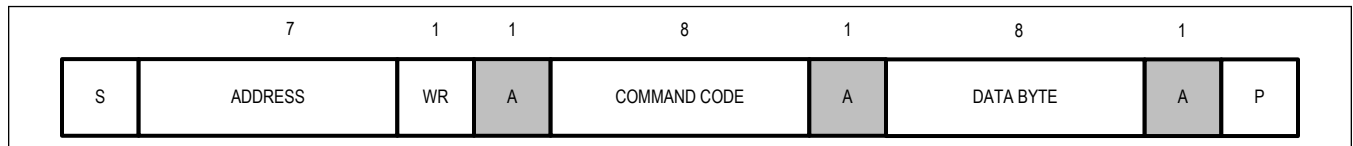

Figure 2. I2C Write
A write operation (Figure 2) begins with the bus master issuing a START (S) condition followed by seven address bits and a write bit (R/W = 0). If the address byte is successfully received, the device (slave) issues an acknowledge (A). The master then writes to the slave and the sequence is terminated by a STOP (P) condition for a single write ope